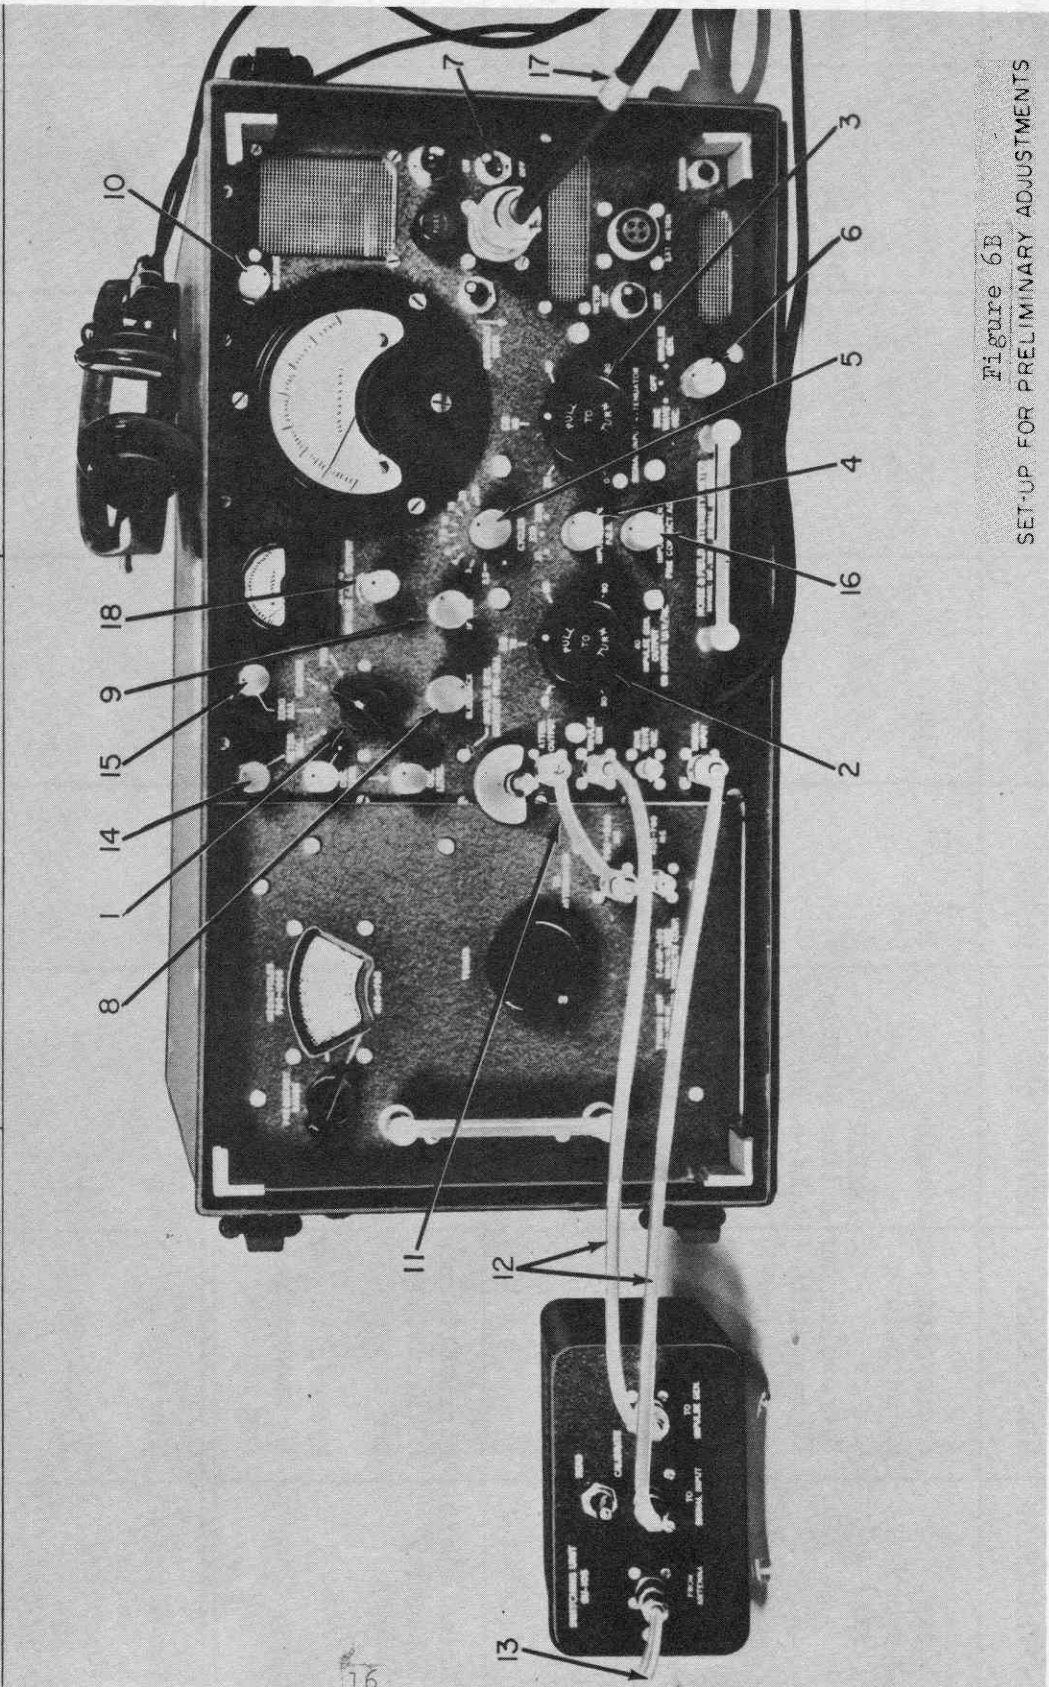

Figure 6B
- s. Switching Unit. Switching Unit SU-105 provides a coaxial switch to select either the IMPULSE GENERATOR output or antenna cable for connection to the SIGNAL INPUT receptical. Figure 6B shows switching unit connected for operation.